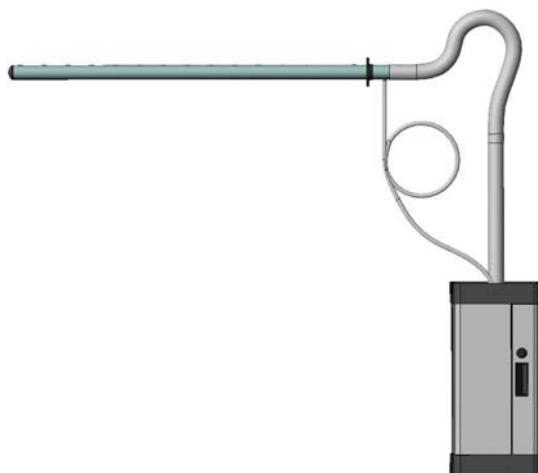
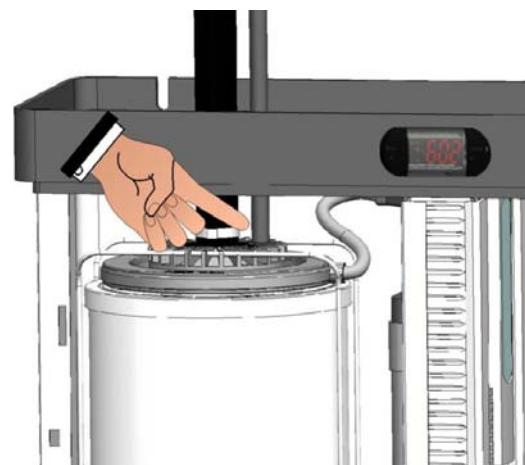

Fig.44
Fig. 45
2. If the distributor is positioned higher than the humidifier and the steam tube generates a siphon (e.g. Fig. 44), the condense recovery must be installed, directly discharging in appropriate cylinder sleeve of the humidifier (Fig. 45) or in a water collection well. The condense recovery is made connecting the 10 mm sleeve of the distributor to the PEGO UMITUBODN10 tube for this type of application. In the path of the condense recovery tube from distributor to humidifier or from distributor to well, a siphon must be made with full turn of 200 mm minimum diameter; the siphon must be charged with water prior to installation. This will prevent steam exiting the condense recovery tube (Fig. 44).